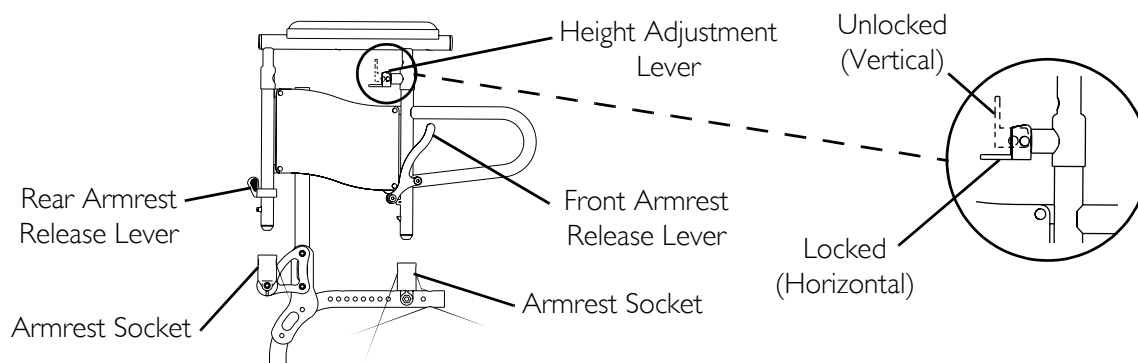

FIGURE 8.1 Removing/Installing/Adjusting Conventional Adjustable Height Armrests
NOTE: For this procedure, refer to FIGURE 8.1 on page 48.
2. Turn rear armrest release lever to locked position to secure armrest assembly to armrest sockets (Detail "A" of FIGURE 8.1).